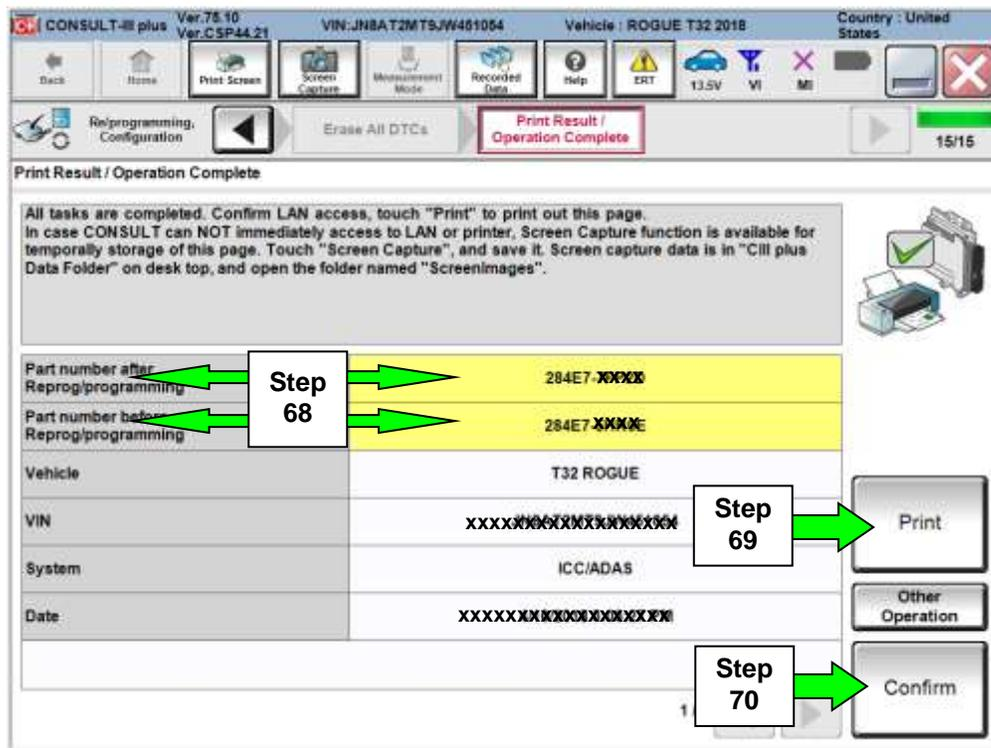

Figure 46
67. When the entire reprogramming process is complete, the screen in Figure 46 will display.
69. Print a copy of this screen (Figure 46) and attach it to the repair order for warranty documentation.